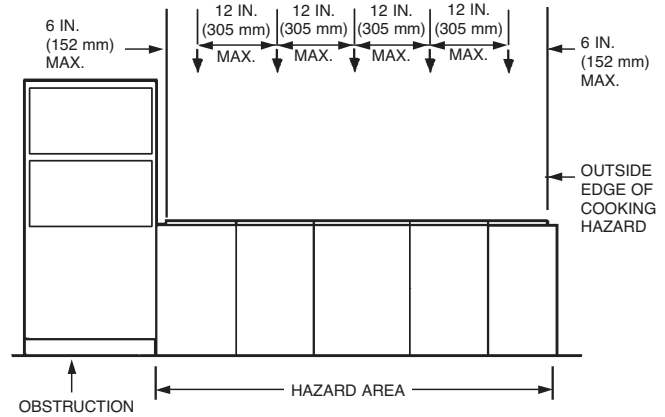

FIGURE 77
2. When obstructions are located adjacent to appliance(s) protected by overlapping nozzles, the overlapping appliance nozzle spacing must start with the appliance(s) adjacent to the obstruction. See Figure 77.